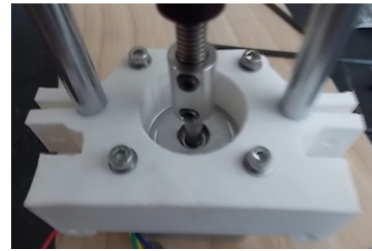

Figure 7. Motor end.
**assembly:** The motor is attached to the motor mount using 18 or 20 mm M3 machine screws (Figure 7). The motor is attached to the same side of the mount as the mounting screw “ears”. This allows access to the mounting screws